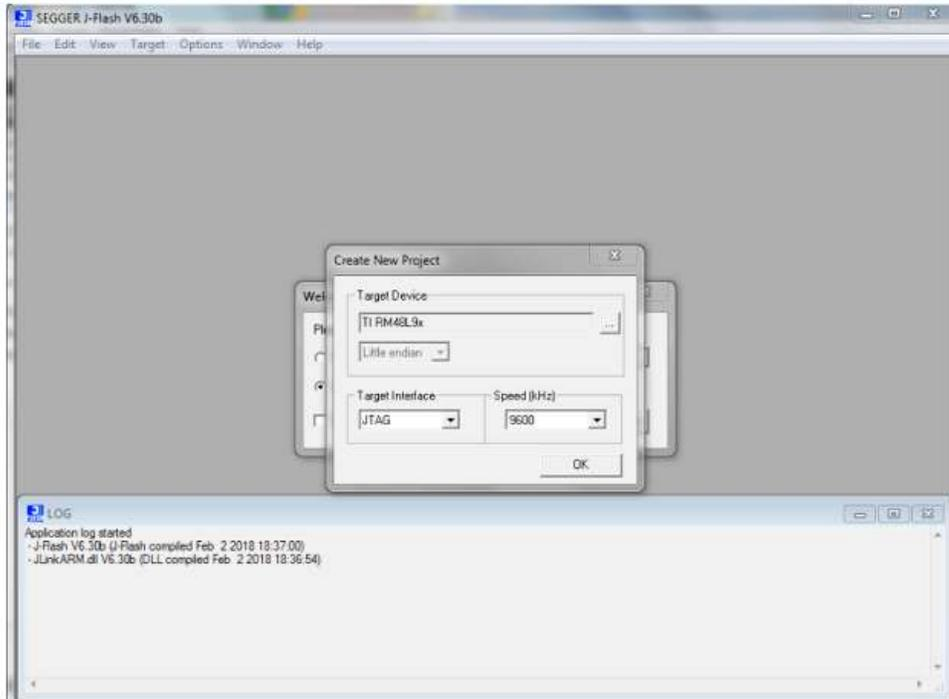

Figure 6: Create new project 2 [Project\_4]
7. The pop-up “Create New Project” re-appears. Select “Target Interface” “JTAG”, then “Speed [kHz]” “9600” and click “OK” (Figure 6, STMA-69054);